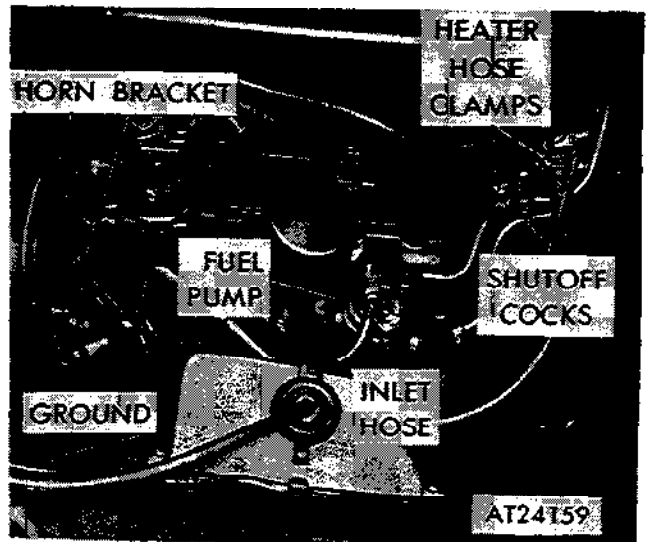

Figure 2-110. Disconnecting or connecting ground cable at horn, fuel pump line and heater hoses on M151A2, M825 and M718A1 vehicles.
(1) Loosen clamp and disconnect fuel inlet hose at mechanical fuel pump (fig. 2-110).